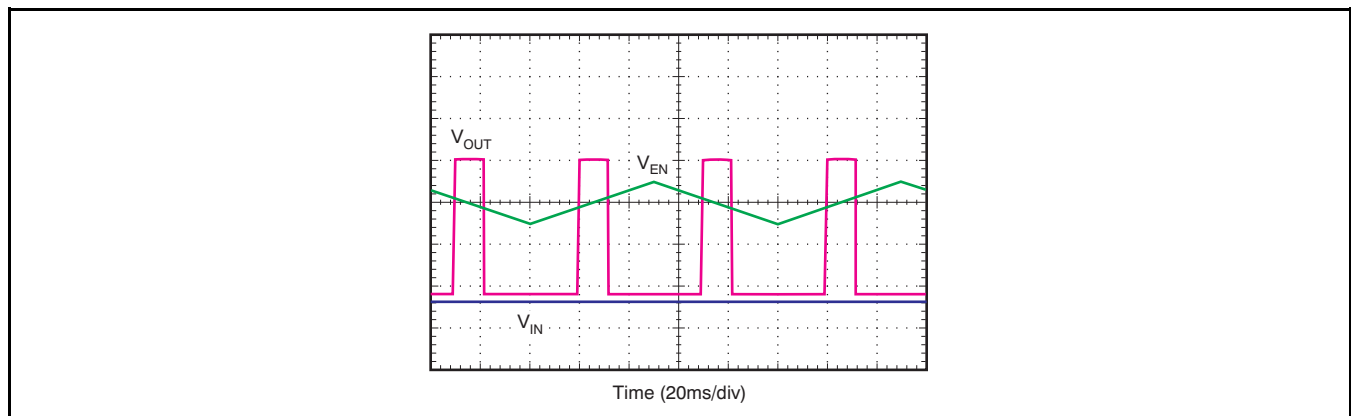

Figure 31. Enable Pin Positive/Negative Threshold
The TPS7A3001 provides a dual polarity enable pin (EN) that turns on the regulator when $|V_{\text{EN}}| > 2.0\text{V}$, whether the voltage is positive or negative, as shown in Figure 31.